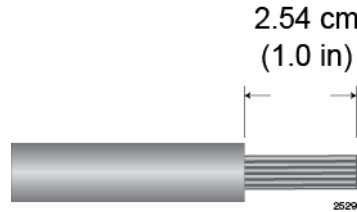

Figure 136. Stripping Solid or Stranded DC Power Wires
1. Prepare adequate lengths of two solid or stranded 8 AWG DC power wires by stripping them as shown in Figure 136.